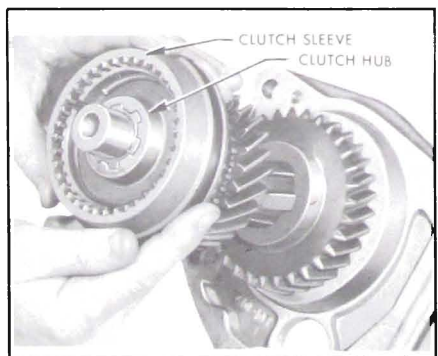

Figure 4-96—Installing 2nd & 3rd Speed Clutch Hub & Sleeve
6. Install 2nd-3rd speed clutch sleeve on clutch hub as shown in Figure 4-96.
8. Install sleeve, hub, and synchronizing ring assembly on mainshaft. See Figure 4-96.